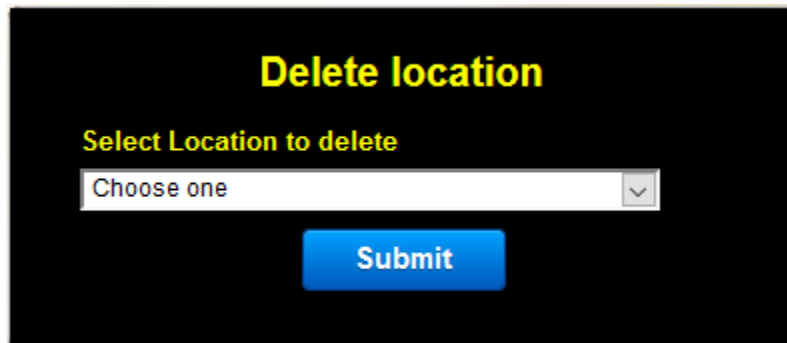

Fig. 18
1. This form allows you to delete a location.(See fig. 18) If a location is no longer going to need access to the logbook you can delete it from your account.